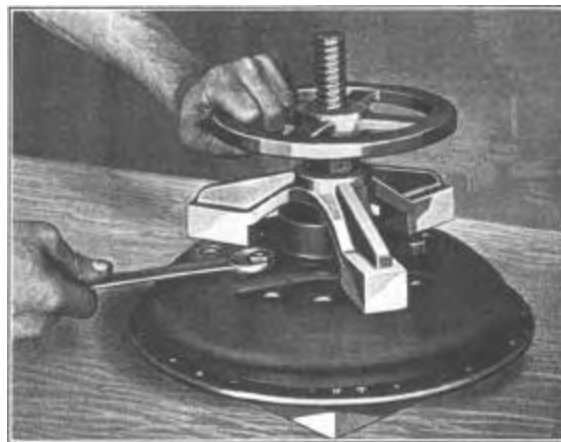

Figure 809—Disassembling Clutch—J-298-H Clutch Fixture
Place the clutch assembly in the clutch fixture (J-298-H) and clamp tight with the hand wheel (Fig. 809). Remove the three nuts (6) from the back of the cover and release the hand wheel. The cover can then be removed, exposing the springs (7), clutch fingers (3) and finger retainers (5).